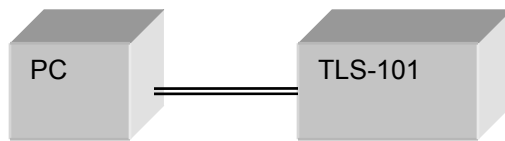

**Figure 7 Direct connection: TLS-101 to PC**
- a) Static IP: the administrator assigns the instrument a fixed IP address. In this mode the instrument can be directly connected to the control PC, as shown in Figure 7, or can be connected through a router. For a direct connection (Figure 7), a cross-linked network cable must be used. For a connection to a router, a standard straight-linked network cable would be used.